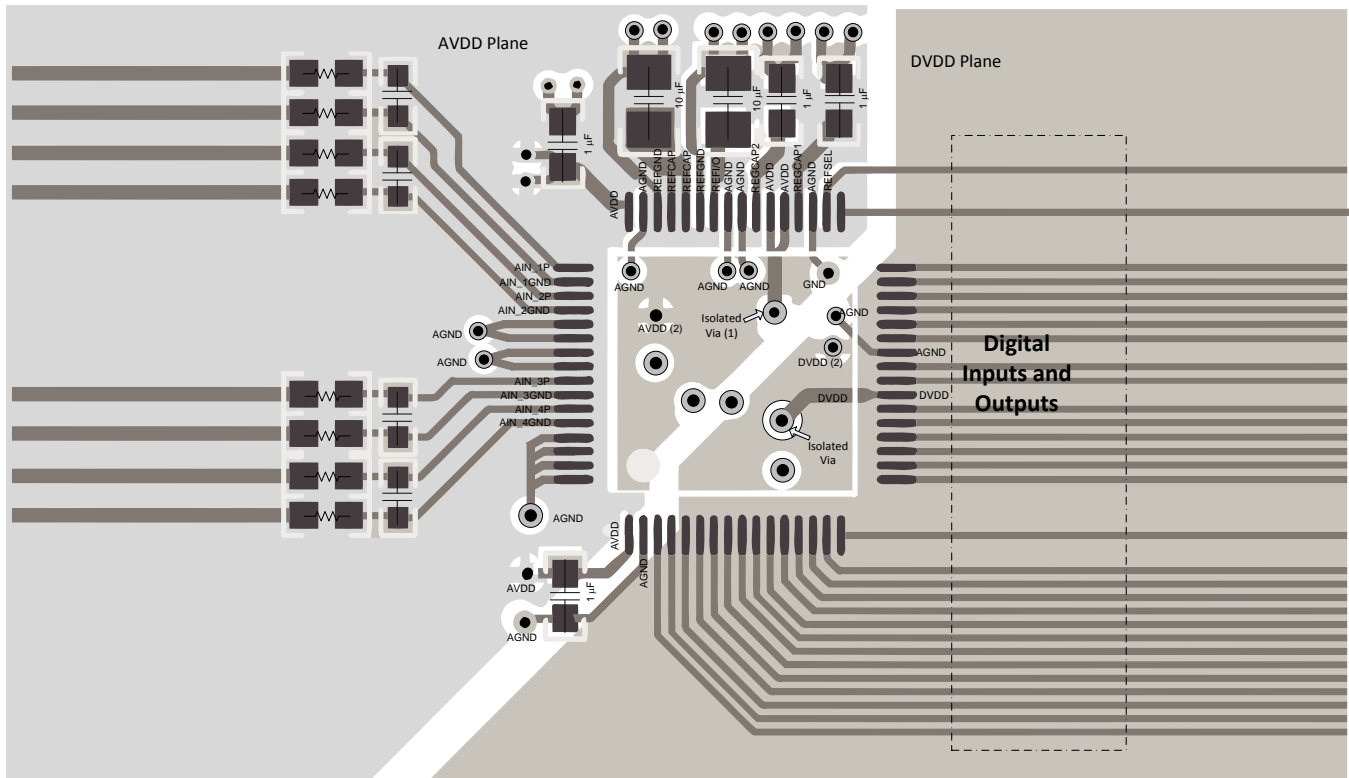
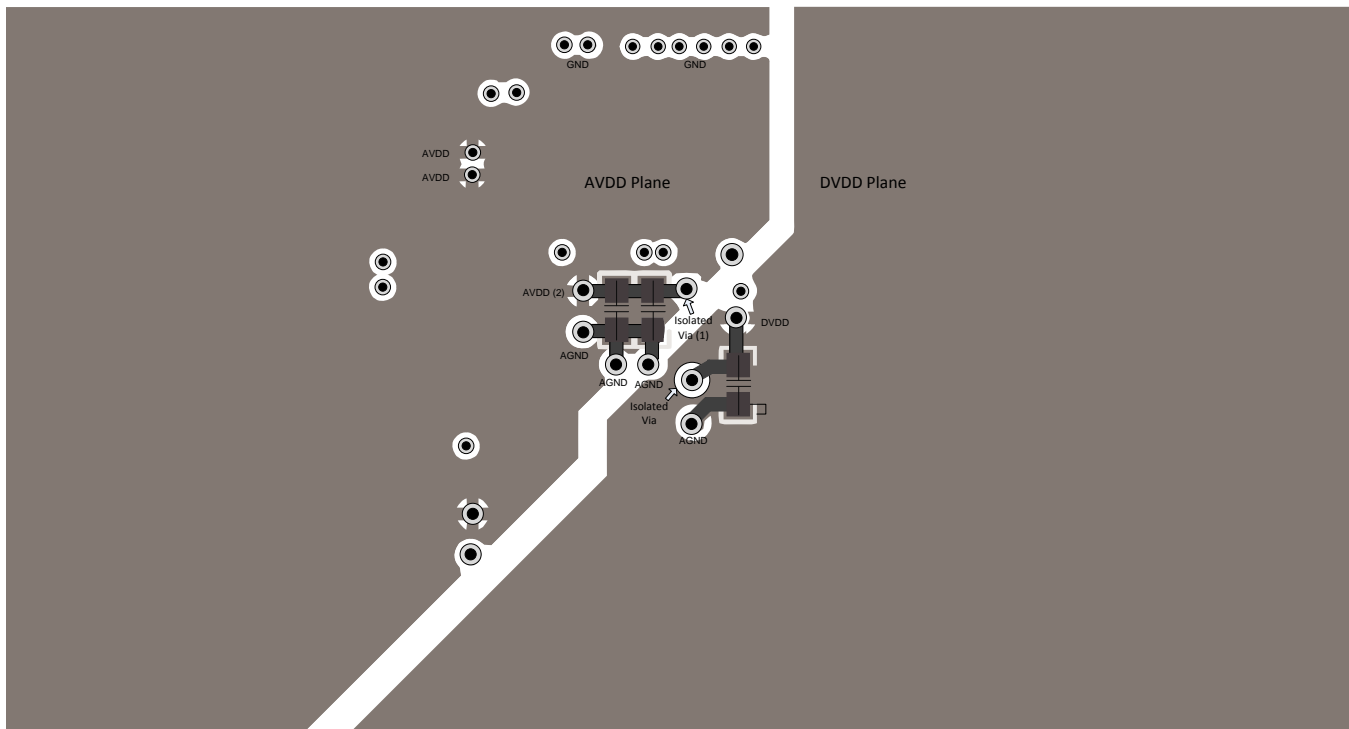

Figure 89. Top Layer Layout
Figure 90. Bottom Layer Layout
Figure 89 and Figure 90 illustrate a PCB layout example for the ADS8584S.
- Power sources to the ADS8584S must be clean and well-bypassed. As a result of dynamic currents during conversion, each AVDD must have a decoupling capacitor to keep the supply voltage stable. Use wide traces or a dedicated analog supply plane to minimize trace inductance and reduce glitches. Using a 1- μ F, X7R-grade, 0603-size ceramic capacitor is recommended in close proximity to each analog (AVDD) supply pins. Bypass capacitors for AVDD pins 1 and 48 are located on the top layer; see Figure 89. AVDD supply pins 37 and 38 are connected to bypass capacitors in the bottom layer using an isolated via (1); see Figure 90. A separate via (2) is used to connect the bypass capacitor to the AVDD plane.
- For decoupling the digital (DVDD) supply pin, a 1- μ F, X7R-grade, 0603-size ceramic capacitor is recommended. The DVDD bypass capacitor is located in the bottom layer; see Figure 90.
Figure 89 and Figure 90 illustrate a recommended layout for the ADS8584S along with proper decoupling and reference capacitor placement and connections.